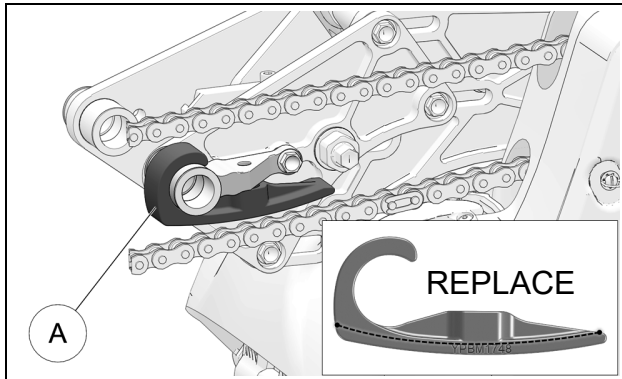

Figure 58
Verify wear on Chain tensioner (A). Replace tensioner if part number molded on the side is erased. See Figure 58.